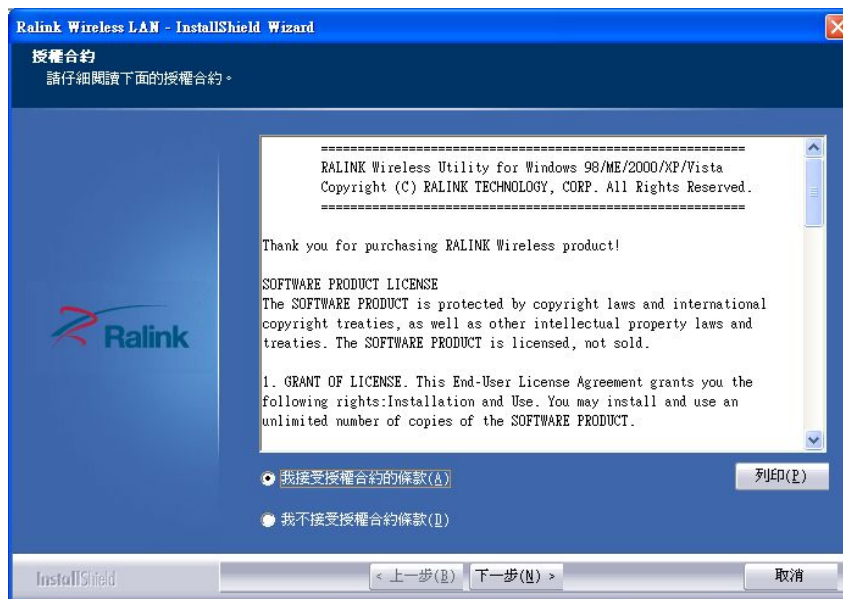

Figure 6-24: Wireless Driver License Agreement
Step 3: The license agreement in Figure 6-24 appears.